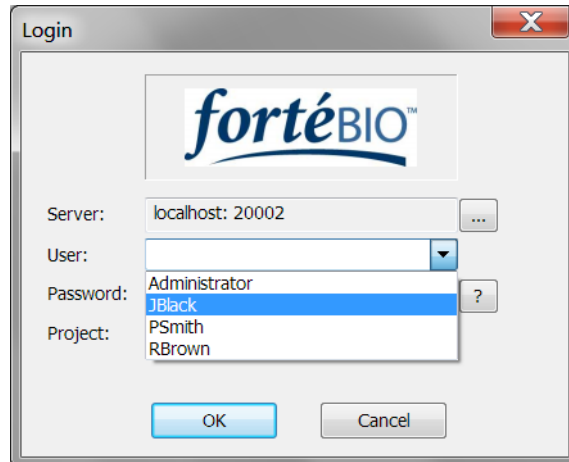

Figure 3-7: Selecting Login Username
3. Select your login name from the **User** drop-down list (Figure 3-7). (For the first time logging in, select **Administrator**.)